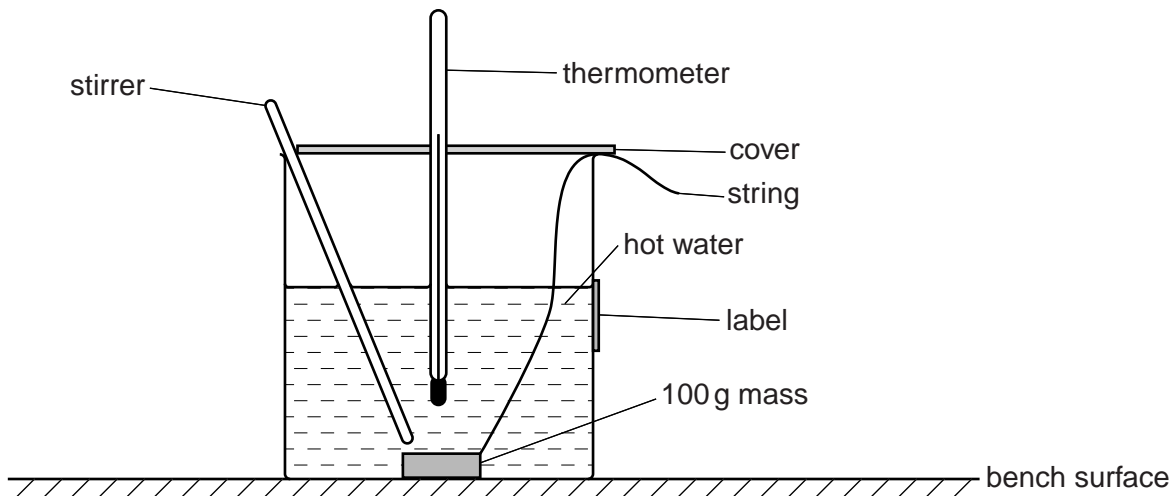

Fig. 3.1
- (b) Place the 100 g mass into the beaker labelled H. Ensure the string hangs over the edge of the beaker. Add **hot** water to beaker H up to the level of the top of the label. Place the cover over the beaker and insert the stirrer and second thermometer as shown in Fig. 3.1.